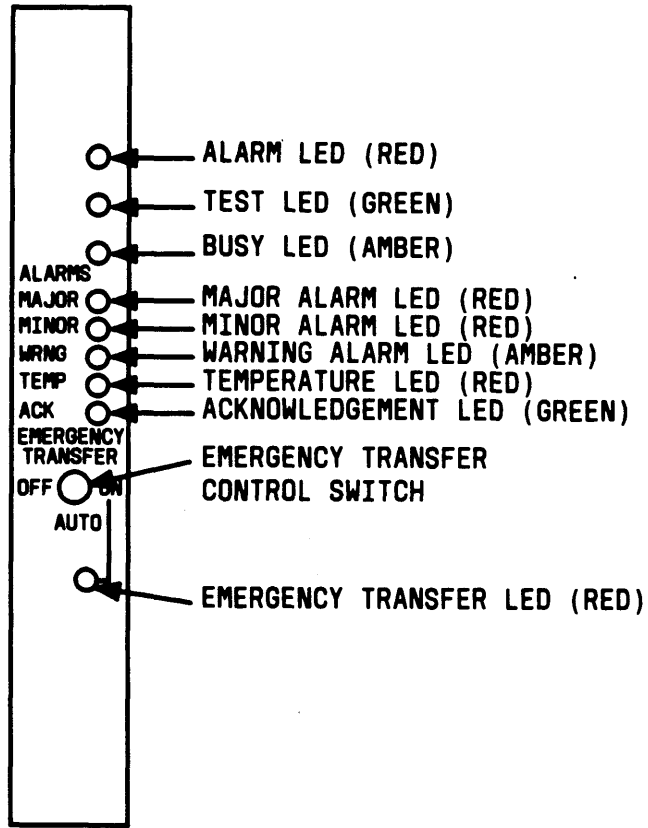

Figure 6. Maintenance Board Indicators
1. At the maintenance board (Figure 6), set the EMERGENCY TRANSFER CONTROL switch to ON. This locks the system in the transfer mode until the circuit packs are installed.